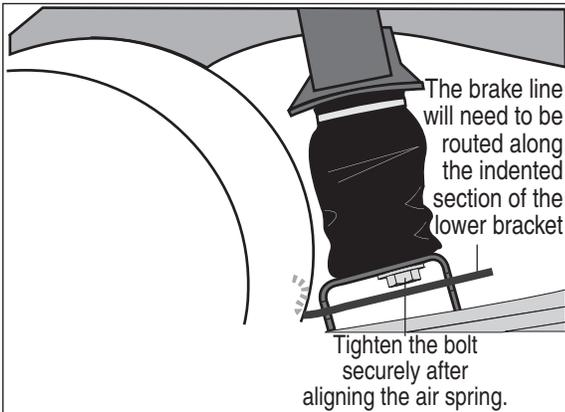

Figure 17
NOTE: The brake line will route freely through the indented section of the lower bracket. If the brake line is rubbing on the bracket, the bracket is on the wrong side of the vehicle (Figure 17).
2. When aligned, tighten the lower end by holding the air spring and turning the bolt with a $\frac{3}{4}$ " open end wrench (Figure 17). Snug (10 ft-lbs) will be sufficient and will also prevent stripping the threads. ***Do not attempt to hold the air spring with any type of tool.***